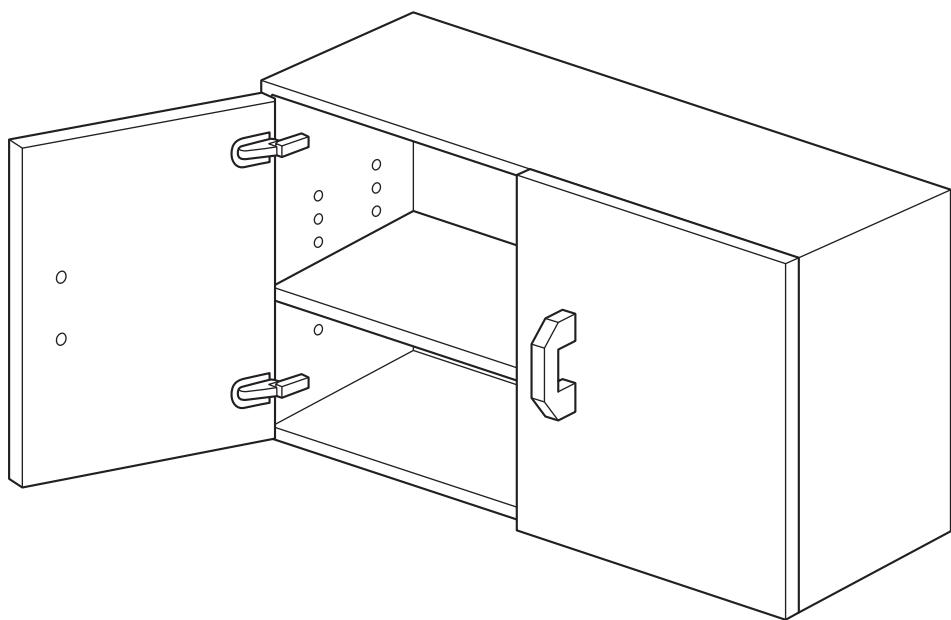

Fig. 6
Fig. 6 shows a wall cupboard for use in a kitchen. The cupboard is manufactured as a 'flat-pack' product, for self-assembly by the purchaser.
- (a) Give **four** justified design requirements for the wall cupboard shown in Fig. 6.